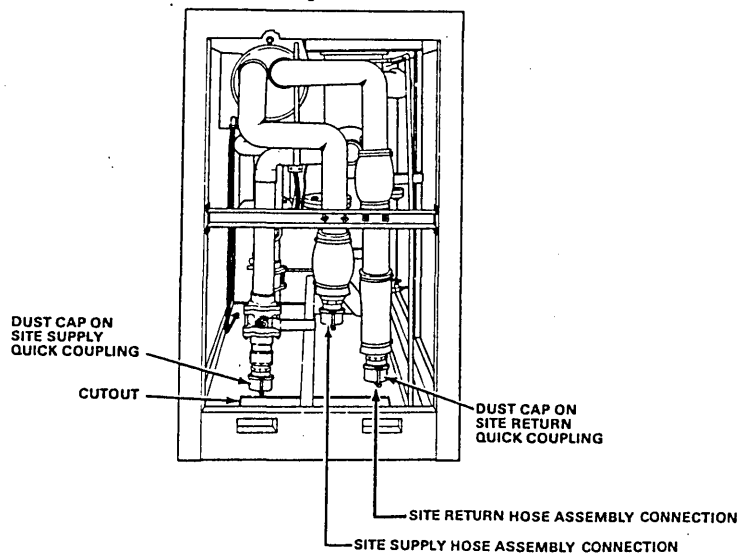

Figure 3-9. Water Manifold Hose Connections to Water Cooling Unit
1. Remove floor tiles, as required, to pull manifold supply and return water hose ends up through floor and hose cutouts into water cooling unit (figure 3-9).